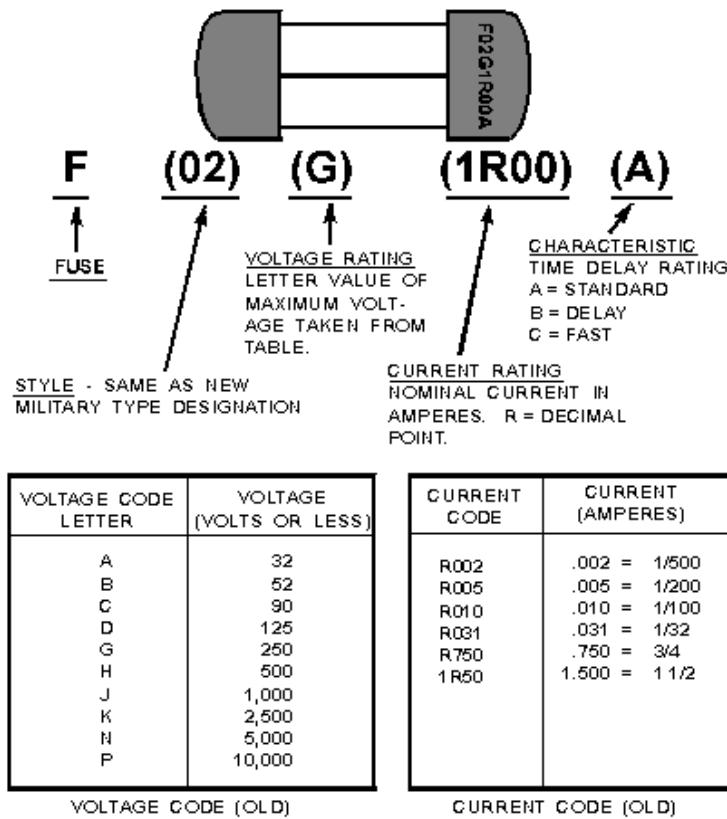
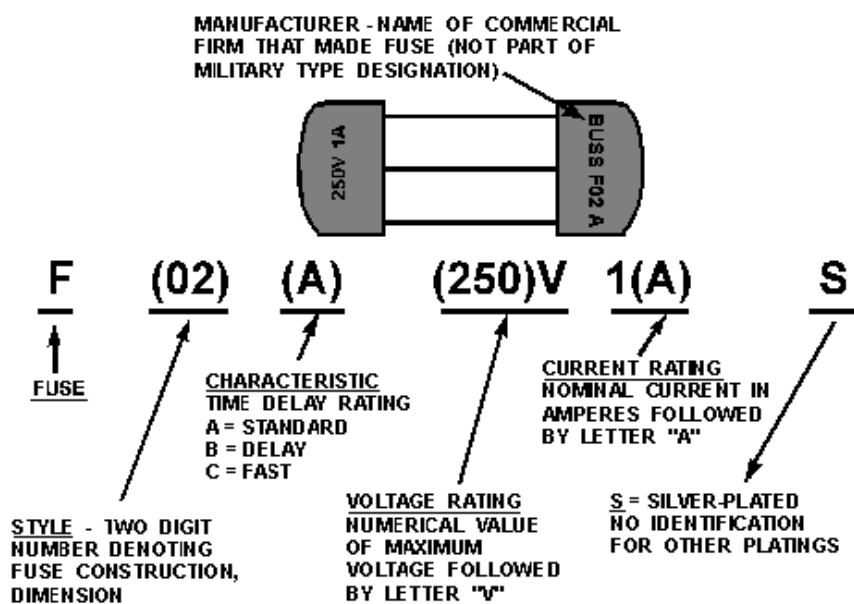

Figure 2-8.—Old type military fuse designation.
Figure 2-9.—New type military fuse designation.
Figure 2-8 shows a fuse with the old military designation. The tables in the lower part of the figure show the voltage and current codes used in this system. The upper portion of the figure is the explanation of the old military designation. The numbers and letters in parentheses are the coding for the fuse shown in figure 2-8.
The old military designation always starts with "F," which stands for fuse. Next, the set of numbers (02) indicates the style. Style means the construction and dimensions (size) of the fuse. Following the style is a letter that represents the voltage rating of the fuse (G). The voltage code table in figure 2-8 shows each voltage rating letter and its meaning in volts. In the example shown, the voltage ratings is G,
which means the fuse should be used in a circuit where the voltage is 250 volts or less. After this is a set of three numbers and the letter "R," which represent the current rating of the fuse. The "R" indicates the decimal point. In the example shown, the current rating is 1R00 or 1.00 ampere. Some other examples of the current rating are shown in the current code table of figure 2-8. The final letter in the old military designation (A) indicates the time delay rating of the fuse.
Figure 2-9 is an example of a fuse coded in the new military designation. The fuse identified in the example in figure 2-9 is the same type as the fuse used as an example in figure 2-8.
You may find a fuse coded in one of the commercial designations. The commercial designations are fairly easy to understand and figure 2-10 shows the old and new commercial designations for the same type of fuse that was used in figures 2-8 and 2-9.
In the example shown, the code 3AG represents the same information as the underlined portions of F02 G 1R00 A from figure 2-8 (Old Military Designation) and F02A 250VIAS from figure 2-9 (New Military Designation). The only way to know the time delay rating of this fuse is to look it up in the manufacturer's catalog or in a cross-reference listing to find the military designation. The catalog will tell you the physical size, the material from which the fuse is constructed, and the time delay rating of the fuse. A 3AG fuse is a glass-bodied fuse, 1/4 inch × 1 1/4 inches (6.35 millimeters × 31.8 millimeters) and has a standard time delay rating.